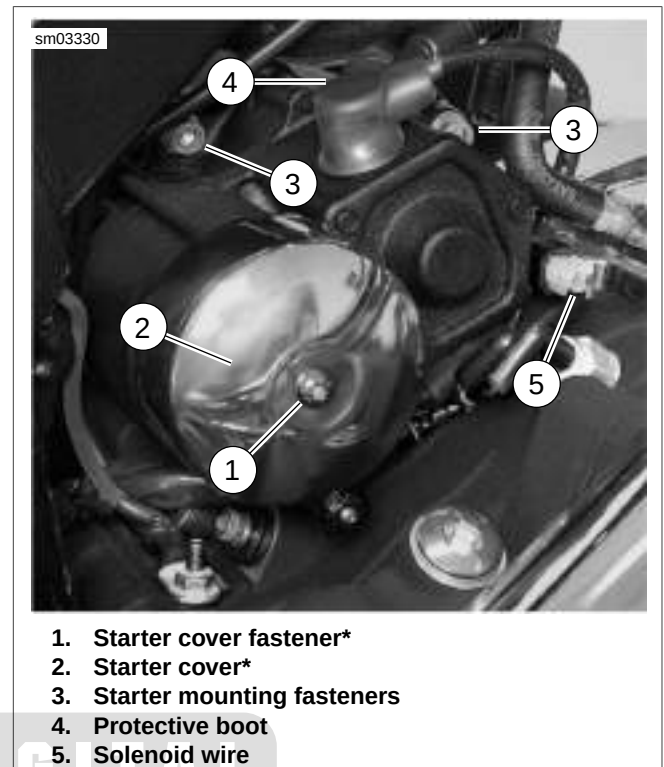

Figure 7-21. Starter
3. See Figure 7-21. Remove starter cover fastener (1) and starter cover (2) from starter.
- a. Remove protective boot (4).
- d. Detach solenoid wire (5).
5. Remove both starter mounting bolts and washers (3).
4. See Figure 7-21. Apply a drop of LOCTITE THREAD-LOCKER 243 (blue) to threads of starter mounting bolts (3).
5. Install the two starter mounting bolts (3) and washers. Tighten to 25-27 ft-lbs (33.9-36.6 Nm).
6. See Figure 7-21. Attach positive battery cable, and solenoid wire (5). Tighten nut (metric) to 65-85 **in-lbs** (7.3-9.6 Nm). Place protective boot (4) securely over terminal.
7. Attach starter cover (2) using fastener (1).